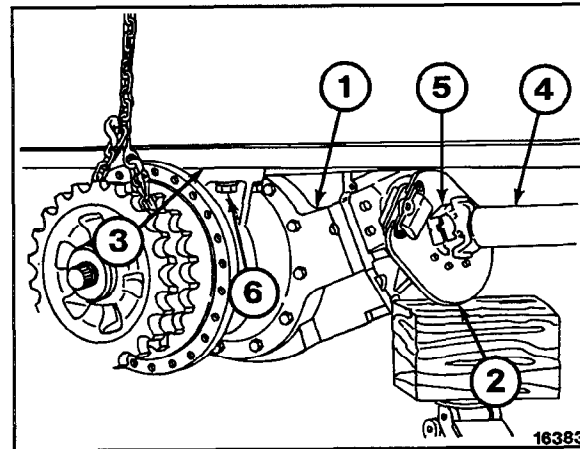

Figure 33
19. If not previously done, remove drain plug from final drive assembly (1, Figure 33) and discard old oil. Reinstall drain plug.
20. Using a suitable lifting device and spreader, sling final drive assembly (1, Figure 33) as shown. Position a jack under brake disc (2) to prevent tipping of final drive as it is lowered away from frame (3).
21. Disconnect drive shaft (4, Figure 33) from input yoke (5).
22. Remove eight bolts and washers (6, Figure 33) that secure final drive to frame. Lower final drive to ground and slide it out from under unit.